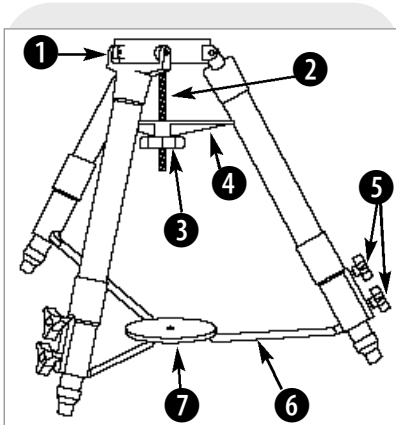

Fig. 46: The Super Giant Field Tripod:
The 16" Super Field Tripod (Figs. 46 and 47) for the Meade 16" LX200-ACF telescope is supplied as a completely assembled unit, except for the spreader bar (Fig. 46, 4) and the six lock-knobs (Fig. 46, 5). There are two knobs for each of the three tripod legs. They are used to adjust the level of the tripod. These knobs are packed separately for safety in shipment.
After removing the field tripod from its shipping carton, stand the tripod vertically, with the tripod feet down and with the tripod still fully collapsed (Fig. 47). Remove the lower knob (Fig. 47, 1), releasing the tension hub (Fig. 46, 7). This knob is used only when storing the field tripod. Moving one leg at a time, gently pull the legs apart. As the legs are opened, the tension hub will move down the threaded rod (Fig. 46, 2) until it is free from the threaded rod. Continue to move the legs apart to a fully open position.
Thread in the two lock-knobs (Fig. 46, 5) for each tripod leg, near the foot of each leg. These lock-knobs are used to fix the position of the inner tripod leg sections. These sections are used to level the telescope (described below).
Loosen the tension knob (Fig. 46, 3), holding the spreader bar (Fig. 46, 4), and slide the spreader bar down the threaded rod until you can rotate it so that the three arms align with the three tripod legs. Tighten the tension knob (Fig. 48) to a firm feel; firm tightening of the tension knob is sufficient to result in rigid positioning of the legs. **Do not use force in tightening this knob.**
- Level the drive base by loosening the six lock-knobs (Fig. 46, 5) and sliding out the inner tripod legs.